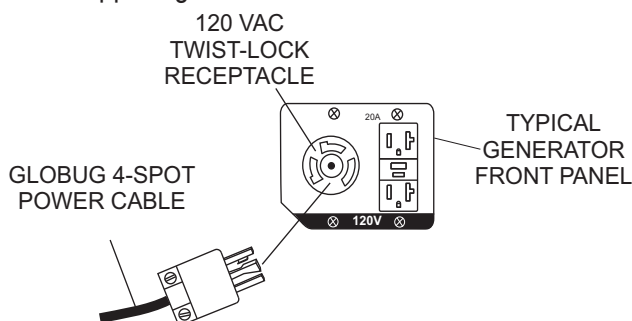

Figure 20. 120 VAC Receptacle
2. The GloBug has a power requirement of 120 VAC, 60 Hz @ 18 amps. Connect the GloBug 4-Spot AC power cord to the 120 VAC twist-lock receptacle (Figure 20) on the supplied generator.